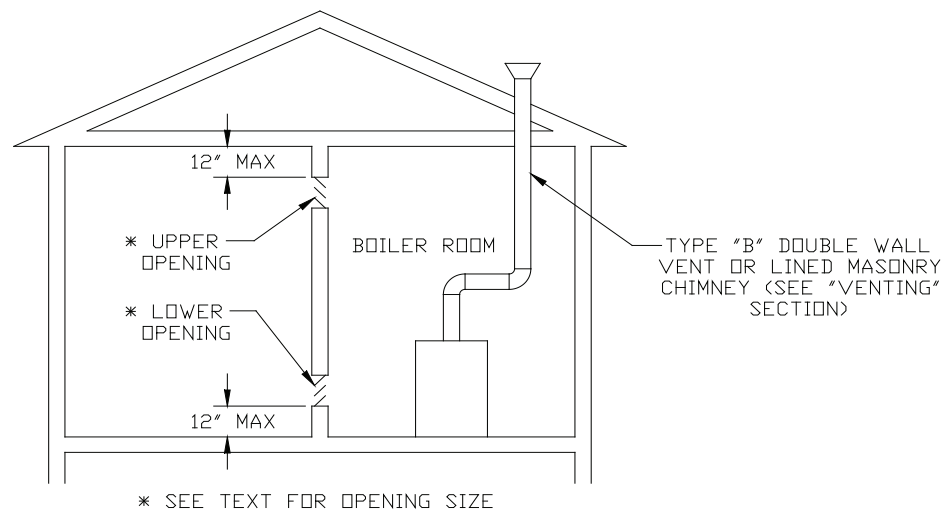

FIGURE 5.1: INDOOR COMBUSTION AIR METHOD
- 4) If the result is at least 50 ft3 per 1000BTU/hr, and neither of the conditions described in (6) below are met, normal infiltration should provide adequate fresh air into the boiler room.
- 5) If the result is less than 50 ft3 per 1000BTU/hr, provide two openings into the boiler room, one near the floor and one near the ceiling. The top edge of the upper opening must be within 12” of the ceiling and the bottom edge of the lower opening must be within 12” of the floor (Figure 5.1):